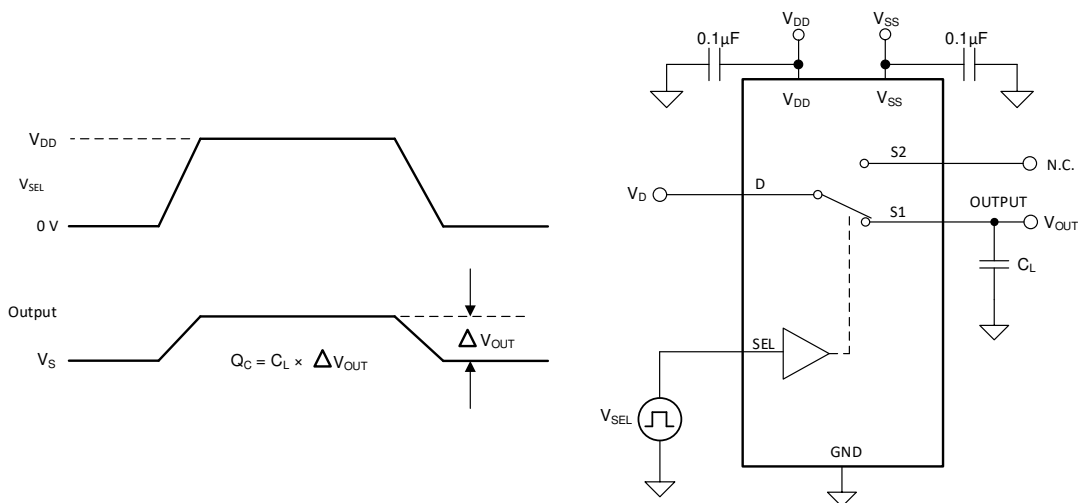

Figure 6-6. Charge-Injection Measurement Setup
The TMUX1119 has a transmission-gate topology. Any mismatch in capacitance between the NMOS and PMOS transistors results in a charge injected into the drain or source during the falling or rising edge of the gate signal. The amount of charge injected into the source or drain of the device is known as charge injection, and is denoted by the symbol Q_C . Figure 6-6 shows the setup used to measure charge injection from Drain (D) to Source (S_x).